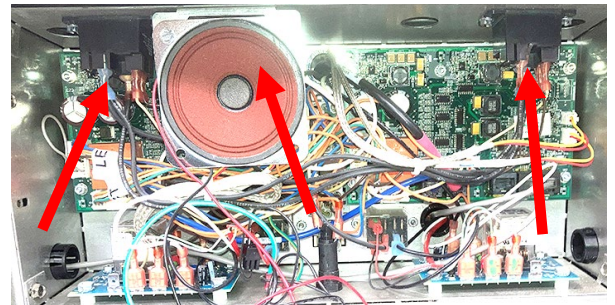

Figure 20
13. On gas fryers, the speaker bracket and relay(s) must be relocated towards the rear of the box to allow room for the cooling housing (see Figure 20). On electric fryers, the speaker bracket can be bent down towards the SIB board (see Figure 24). If electric, skip to step 19.